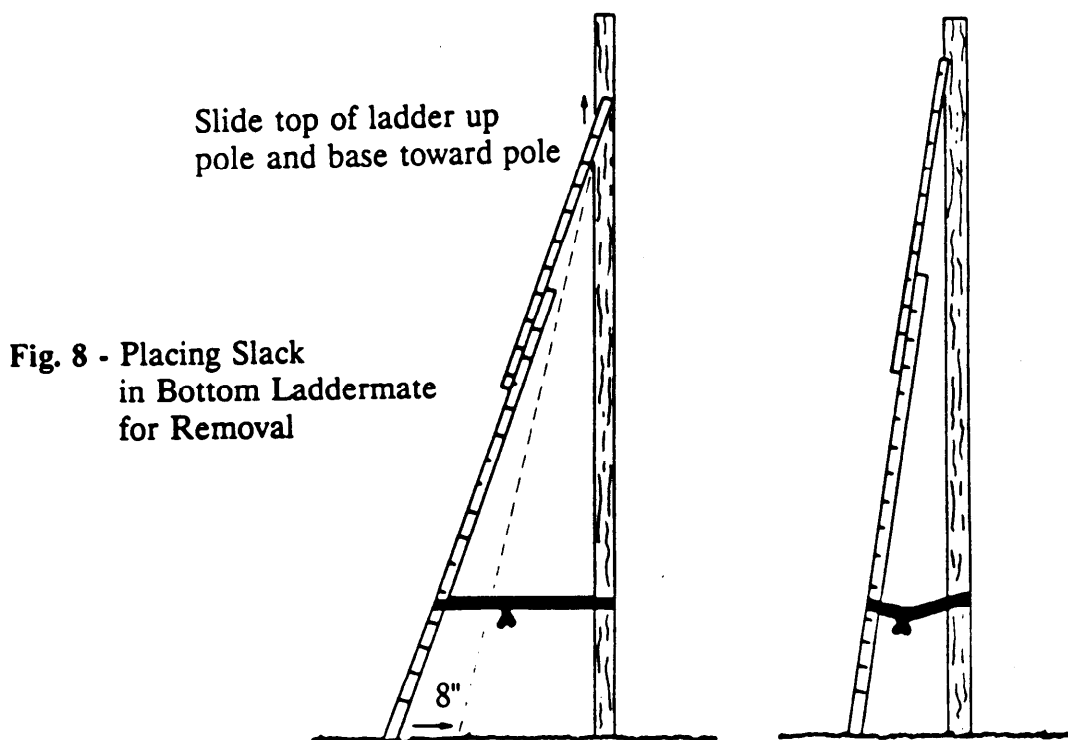

Fig. 8 - Placing Slack
- o After this is accomplished, descend the ladder. From a standing position at the base of the ladder, lift the side rails slightly, and move the ladder base approximately 8 inches towards the pole (Fig. 8). This will place slack in the BOTTOM-LADDERMATE which will allow you to release the snaps and remove the strap.